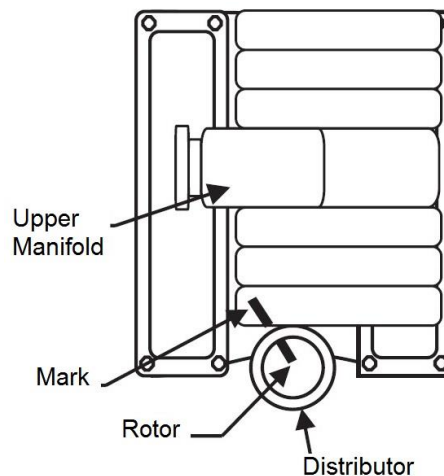

Figure 1
2. With the cap off, turn the engine over until the rotor is aimed at a fixed point on the engine or firewall. Note this position by making a mark (**Figure 1**).